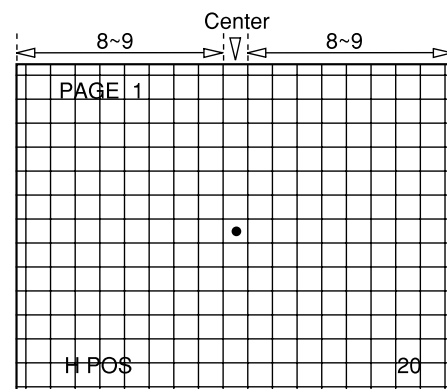

Fig. 1-1
- Use the volume keys on the jig remote controller to adjust the dot mark in the centre of crosshatch screen to the exact centering position by allocating an equal number of squares on the left and right sides of the dot. (Fig. 1-1)